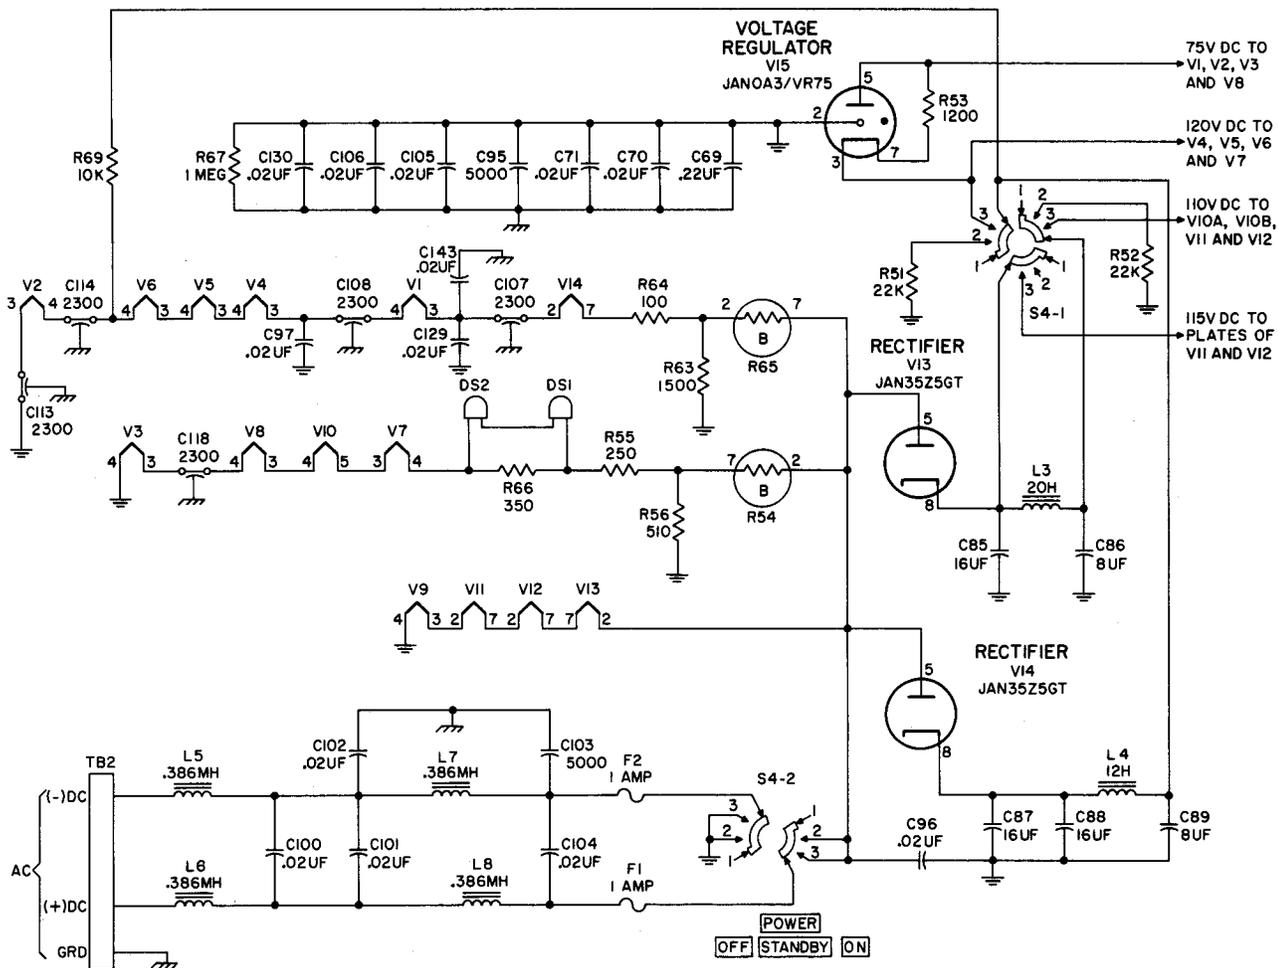

Figure 2-13. Plate, Screen Grid and Filament Circuits, Simplified Schematic Diagram
m. FILAMENT CIRCUITS. (Figure 2-13)
(1) The tube filaments in the receiver are series connected in three separate strings. This is done to allow operation of the receiver on either 115 volts, ac or dc. Since a parallel connection of the tube filaments would require a low-voltage high-current filament supply, it is most